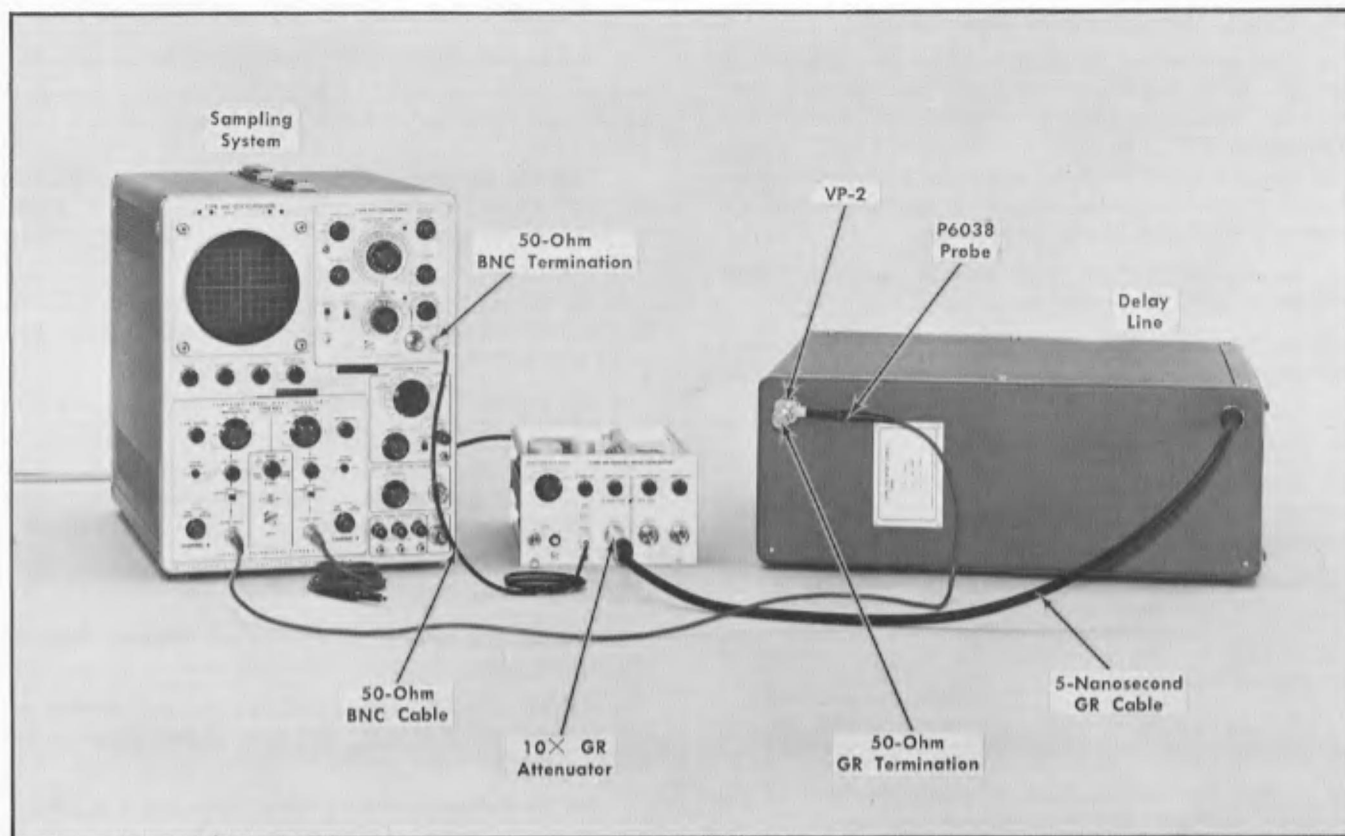

Fig. 6-13. Initial test equipment setup for steps 13 — 16.
- a. Test equipment setup is shown in Fig. 6-13.